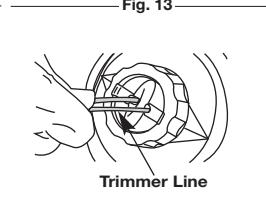

Fig. 15
- Using 16 ft. (4.8 m) of 0.095 in. (2.41 mm) replacement line push both ends of the line through the holes in the bump knob until they protrude through the eyelets on both sides of the cutting head. Continue pulling the line until approximately 8 ft. (2.4 m) is visible from both sides of the cutting head. (Fig. 15)